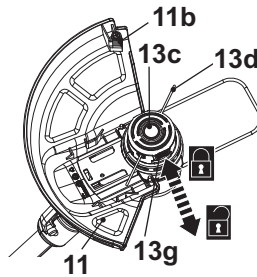

Fig. 22
1. Turn trimmer head (13) upside down.
2. Press the release push button (13g) while pulling on the trimming line (13d). The trimming spool (13c) will release the trimming line (Fig. 22).